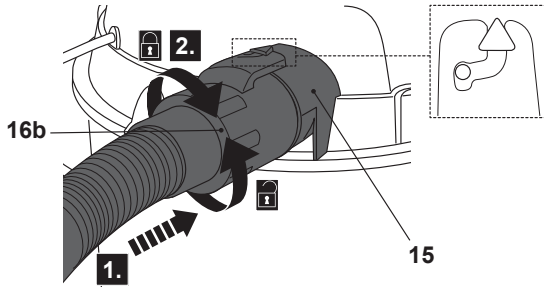

Fig. 14
- > Align the arrow on the hose connector (16b) with the tab on the outer opening of the air outlet (15) and slide the hose connector onto the air outlet (Fig. 14, step 1).
- > Rotate the hose connector (16b) clockwise and ensure the connection is properly secured (Fig. 14, step 2).